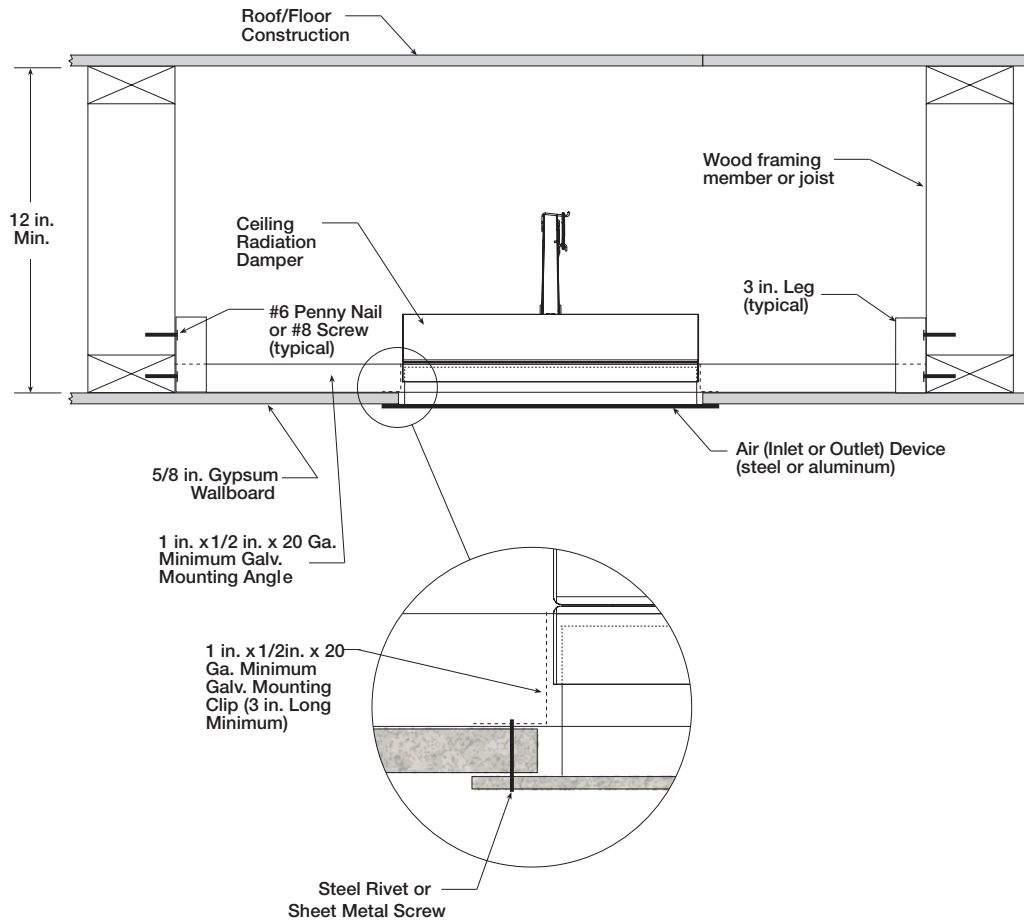
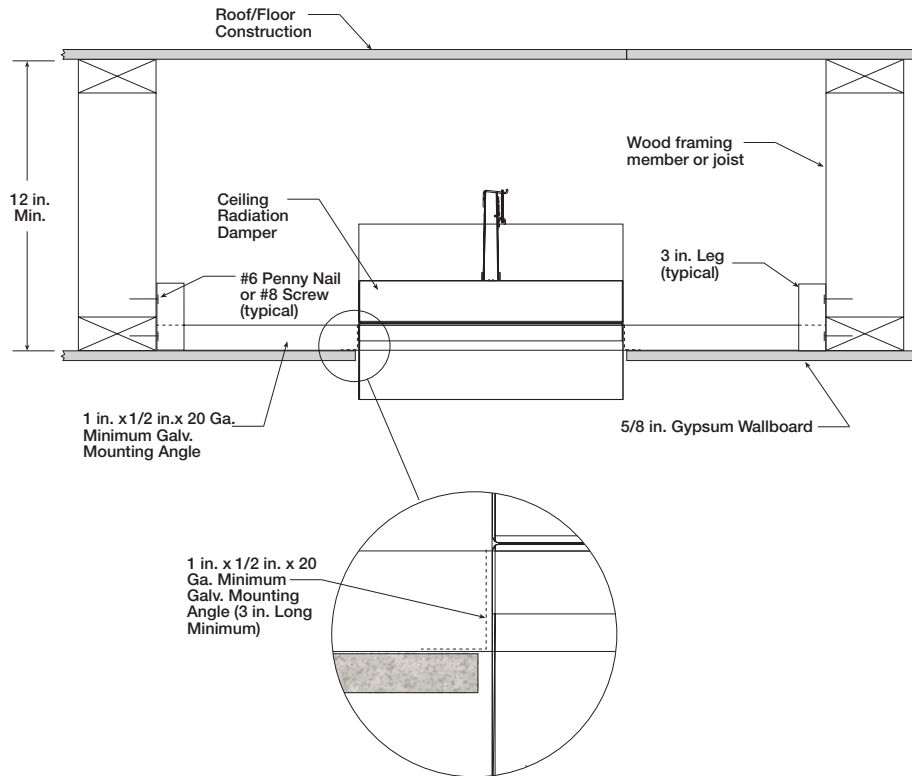

Figure 1
Figure 4
3. On the sides opposite the retaining angles, a three inch long (minimum) mounting angle is required. Make attachments as shown in Figure 1; make two attachments minimum per mounting angle for rectangular dampers and one attachment minimum per mounting angle for round dampers. Bottom leg of mounting angle rests on the ceiling material.
4. See **Figure 1** for further details.
- **Figure 4** shows the installation of a damper, with top and bottom extensions which extends three inches above and below the rated ceiling.
Models CRD-1, CRD-1LP, and CRD-2 may be installed as shown in Figure 1 and Figure 4.